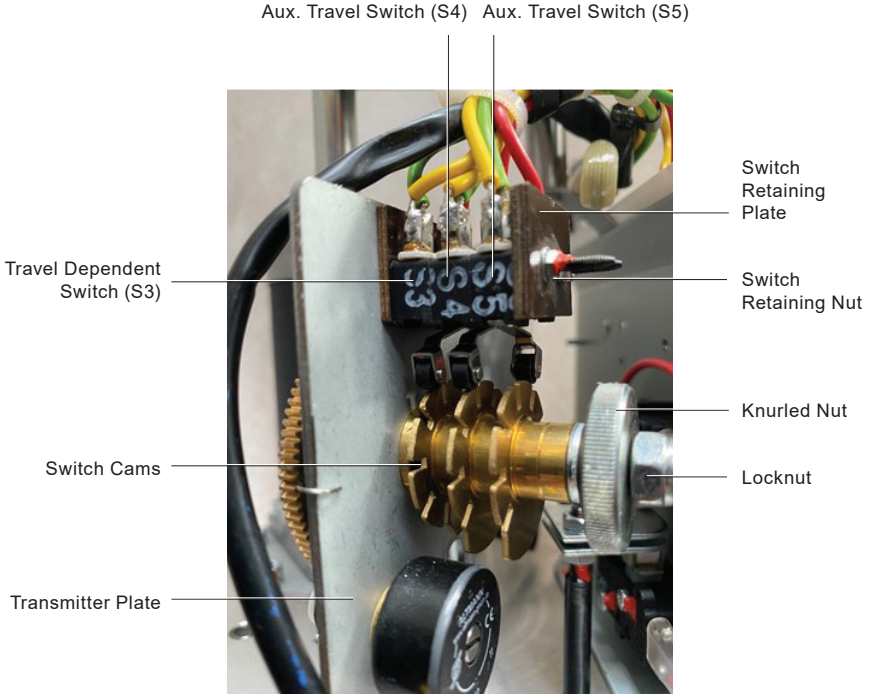

Fig. 9 Auxiliary Travel Switch (WE) Arrangement 8 kN+ (1798 lbf+)
- Refer to Fig. 9 for product orientation